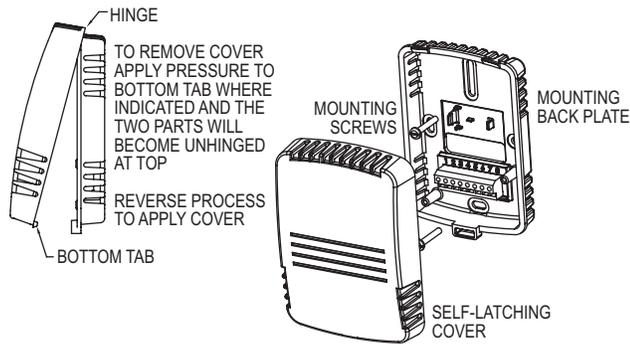

Figure 1: Removal Of Cover From Back Plate
1. Push tab on bottom of cover and lift cover from back plate (See Figure 1).
Step 1: Remove the cover as shown in Figure 1.